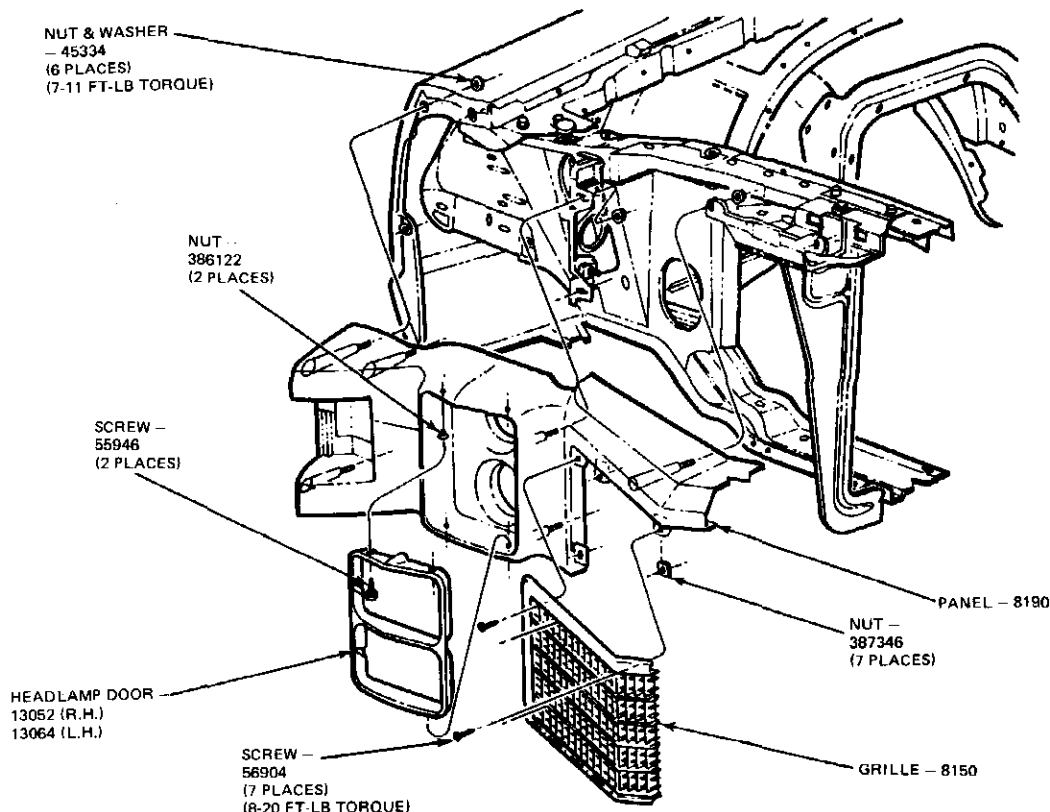

FIG. 1 Radiator Grille—LTD II and LTD II Ranchero
1. Remove screws attaching each headlamp door, lean forward to disengage from locating pins and lift away from the grille panels (Fig. 1).
2. Remove seven grille retaining screws, and remove the grille assembly (Fig. 1).